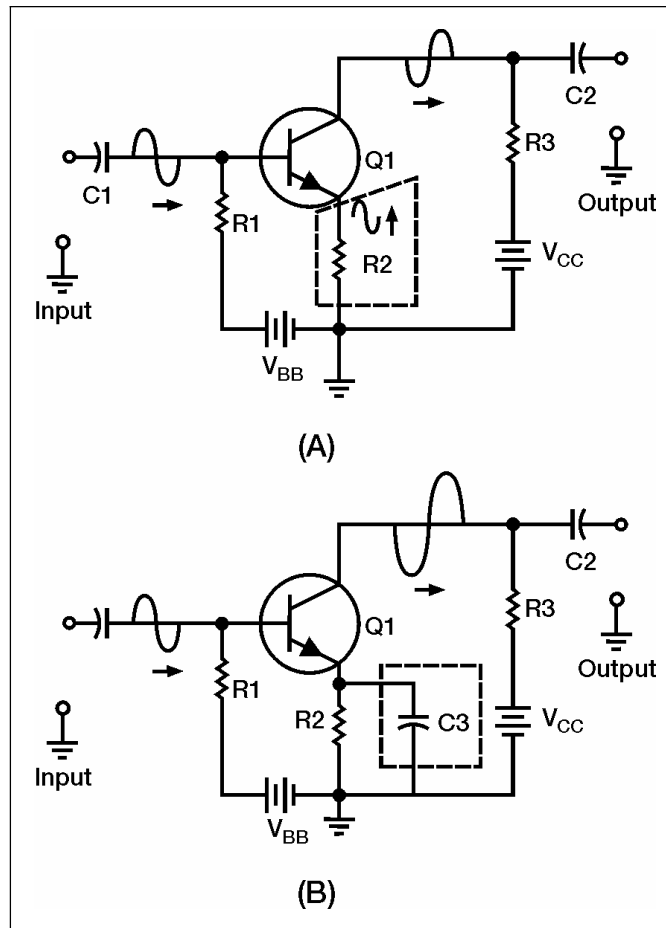

Figure 5-19. Decoupling (Bypass) Capacitor in a Transistor Amplifier
5-72. Sometimes positive feedback is used to eliminate the effects of negative feedback that are caused by circuit components. Figure 5-19 shows one way in which a circuit component can cause negative feedback.
5-73. Figure 5-19, view (A) shows a CE transistor amplifier. An emitter resistor (R_2) has been placed in this circuit to provide proper biasing and temperature stability. An undesired effect of this resistor is the development of a signal at the emitter in phase with the input signal on the base. This signal is caused by the changing current through the emitter resistor (R_2) as the current through the transistor changes. You might think that this signal on the emitter is a form of positive feedback since it is in phase with the input signal; however, the emitter signal is really negative feedback. Current through the transistor is controlled by the base-to-emitter bias. If both the base and emitter become more positive by the same amount at the same time, current will not increase. It is the